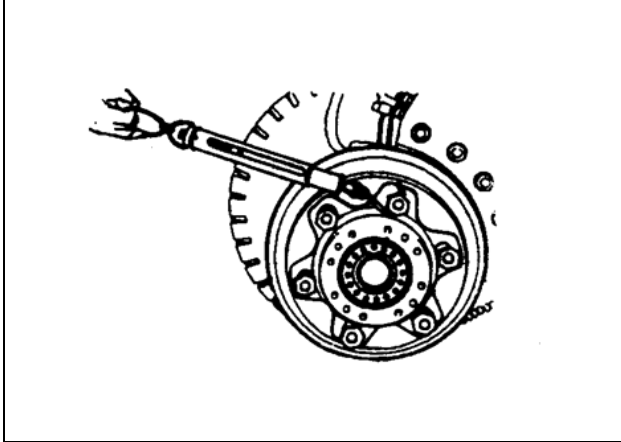

Fig.3-8
- (1) Lubricate taper roller bearing.
- (2) Tighten roller bearing lock nut in wheel hub until wheel hub can no longer be rotated with one hand.
- (3) From that position, turn back lock nut approx. 60°.
- (4) Turn back wheel hub two or three rotations so that bearing settles down.
- (5) Again tighten lock nut until it can no longer be rotated with one hand; then turn back approx. 60°.
- (6) Install snap-ring and attach felt ring, install lock washer so its hole in the pin of snap-ring. Screw lock nut.
- (7) Turn wheel hub back and forth two or three rotations to see if rotation starting torque is within specifications. Rotation starting force : 2.0T-3.5T is 10-29N, (refer to Fig.3-8);